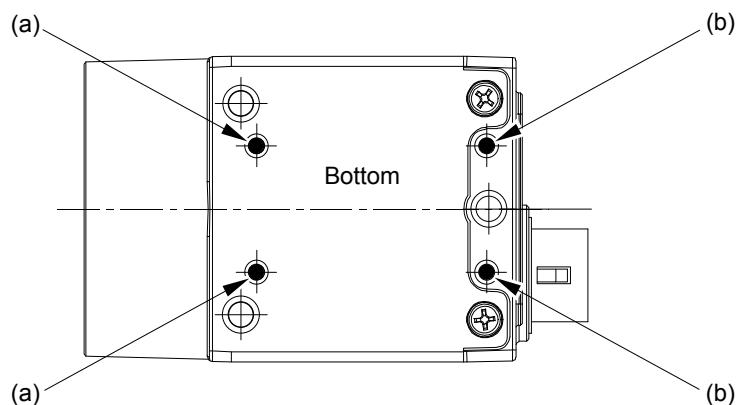
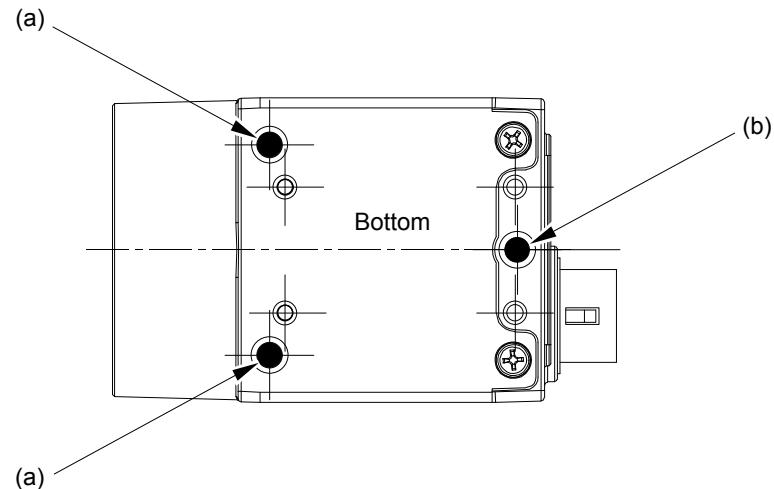

Fig. 30: Designations of the Mounting Screw Holes for the M2 Screws.
Fig. 31: Designations of the Mounting Screw Holes for the M3 Screws.
The tightening sequences are illustrated in Figure 30 and Figure 31 for cameras with C-mounts. However, the tightening sequences apply equally to cameras with CS-mounts.
1. Tighten the screws for the mounting screw holes (a) in Figure 30.
2. Tighten the screws for the mounting screw holes (b) in Figure 30.
1. Tighten the screws for the mounting screw holes (a) in Figure 31.
2. Tighten the screw for mounting screw hole (b) in Figure 31.